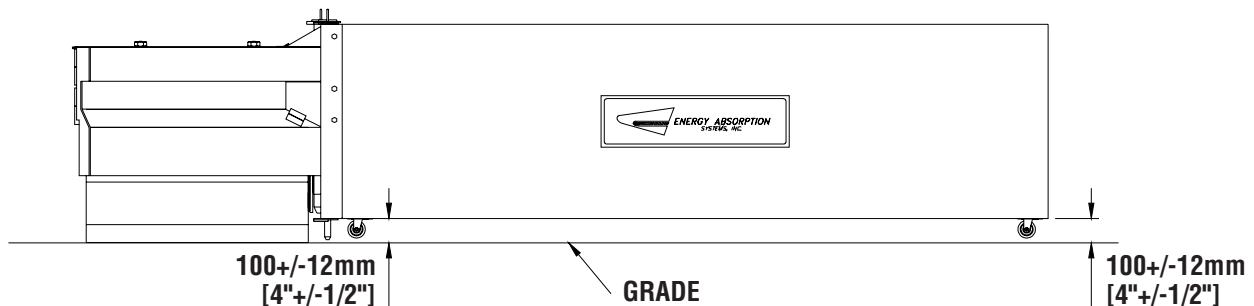

Figure 20
Step 11: Checking Installation Height (See Figure 20)